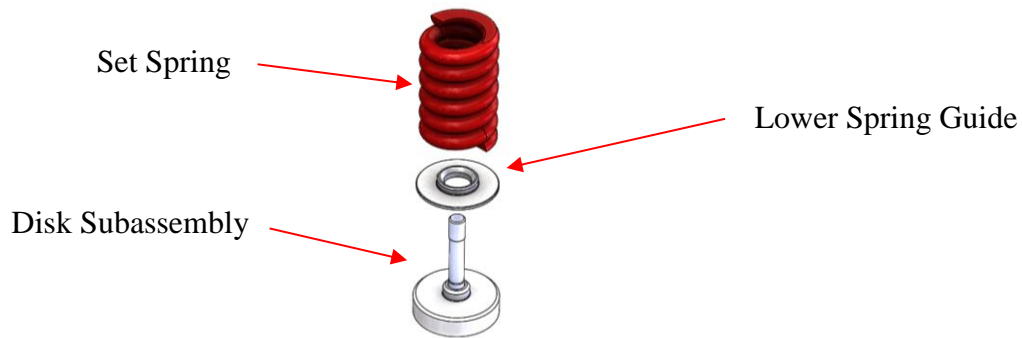

Figure 18: Body Internal Components
6. Remove the set spring and lower spring guide (if it exists) and discard the disk subassembly. See Figure 18.